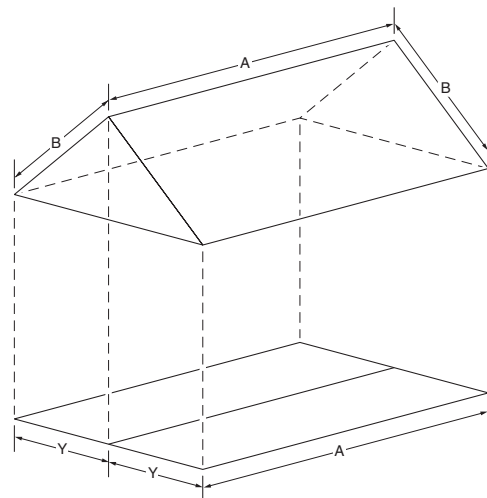

Figure 3-2: Plan View
However, we can describe the roof in another way. Suppose we walk around the building and measure the length and width of the building. We can now draw a flat representation of the building at the ground level called the plan view. We have projected the inclined roof onto a horizontal surface to get the area shown in *Figure 3-2*. The dimension B, the rake, now appears as Y on the plan view.
Below is a table of slope factors to make the calculation of the rake length (B) easy. If we know the rise in elevation of the roof for every foot of run, then we multiply the area of the horizontal plane ($2Y \times A$ in *Figure 3-2*) by the corresponding slope factor in Table 1 to get the actual area.
For example, if the rise is 5 inches per foot, then the area of the roof in *Figure 3-2* is: